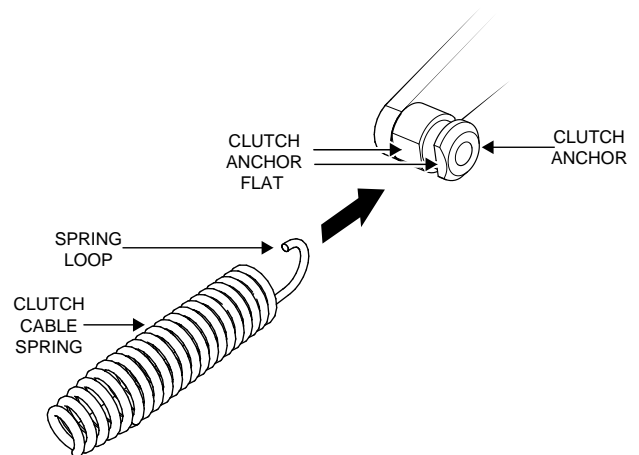

Figure 20. Spring Loop Attachment.
- Connect the clutch cable to the clutch anchor by placing the spring loop over the clutch anchor flats as shown in Figure 20. Use needle nose pliers to slide the spring loop fully into the groove.